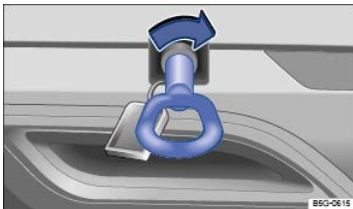

Fig. 169 In the right rear bumper: Installing the towing eye.
There is a threaded hole for the towing eye in the right rear bumper behind a cover ⇒ Fig. 169.
- Screw the towing eye **clockwise** into the threaded hole as far as it will go (arrow) ⇒ Fig. 169 ⇒ . Use the lug wrench to turn and tighten the towing eye.